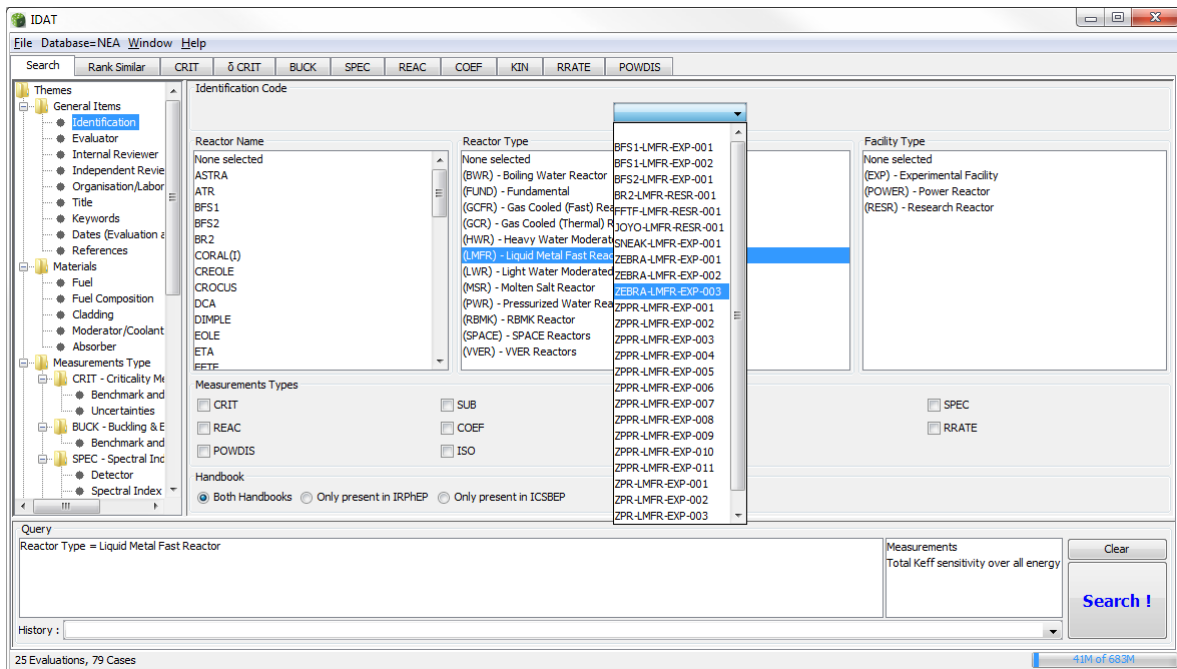

Figure 1: Searching for liquid metal fast reactors.
IDAT is organised into panes. By default IDAT initially displays the search pane, shown in Figure 1. This pane has a similar appearance and functionality as DICE.
- **Search** (Shown in Figure 1),
Figure 1 depicts a search for LMFR cases. Individual evaluations can be chosen by using the **drop down box**, as is shown in the figure. When searching multiple criteria, the user can **hold down the CTRL or SHIFT key to select multiple items**. A preview of the number of evaluation and cases to be returned is shown in the bottom left corner. Pressing the "Search!" button, located in the bottom right corner, executes the query.